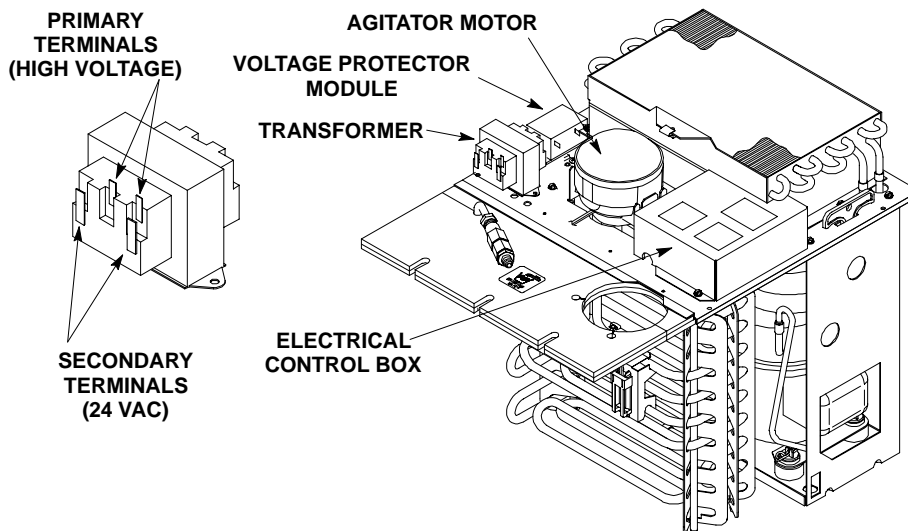

FIGURE 1. TRANSFORMER/VOLTAGE PROTECTOR MODULE LOCATION
NOTE: It may be necessary to relocate the transformer to make room for installation of the VOLTAGE PROTECTOR MODULE (item 1) on the refrigeration deck as shown in Figure 1.
5. Place the transformer and the VOLTAGE PROTECTOR MODULE (item 1) on the refrigeration deck in approximate locations as shown in Figure 1.
6. Using the transformer and the VOLTAGE PROTECTOR MODULE (item 1) as templates, mark their mounting holes locations on the refrigeration deck.
8. Install transformer and VOLTAGE PROTECTOR MODULE (item 1) on the refrigeration deck and secure with SCREWS (item 5).